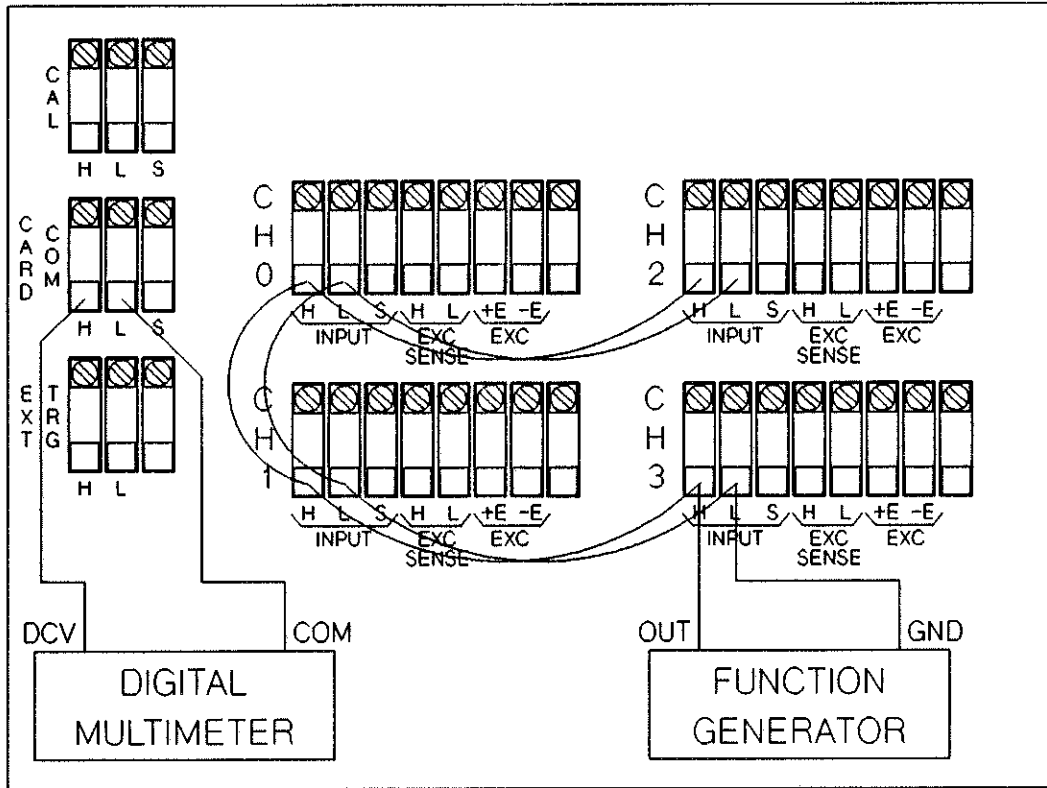

Figure 20-6 Function Generator Test Connections
2. Refer to Figure 20-6. Connect the digital multimeter to the CARD COM H and L output terminals on the test fixture. Connect the function generator to the H and L Input Connections on the test fixture.